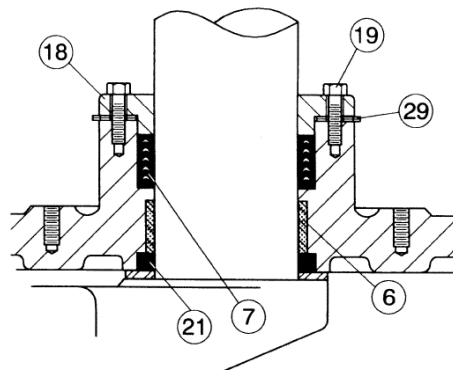

FIGURE 12. PACKING ASSEMBLY
Remove the small round cover on actuator to expose shaft and key. Remove actuator mounting bolts and lift actuator from valve taking care not to lose square key. See Figure 12 and remove gland bolts (19) and lift follower (18) from the valve shaft. Remove old packing (7) with packing hook. Lubricate new packing with FDA grease and set in place one ring at a time taking care not to bend over the lips of the packing rings. Reinstall follower with 2 shims (29) per bolt (3 shims for 12" and larger valves). With valve in the closed position, place the actuator over valve and reinsert key (24). Finally, reinstall cover on actuator indicating "Closed".
Referring to Figure 12, remove follower bolts (19) and side follower (18) up to actuator. Remove packing adapters and rings (7) with packing hook. Cut rings with knife to remove. New packing rings should be cut at a 45 degree slope to allow insertion around the shaft and provide some overlap. Install rings one at a time with the tips down toward the valve. Stagger all joints 180 degrees around the shaft. Pull down follower (18) and reinsert bolts (19) with 2 shims (29) under follower